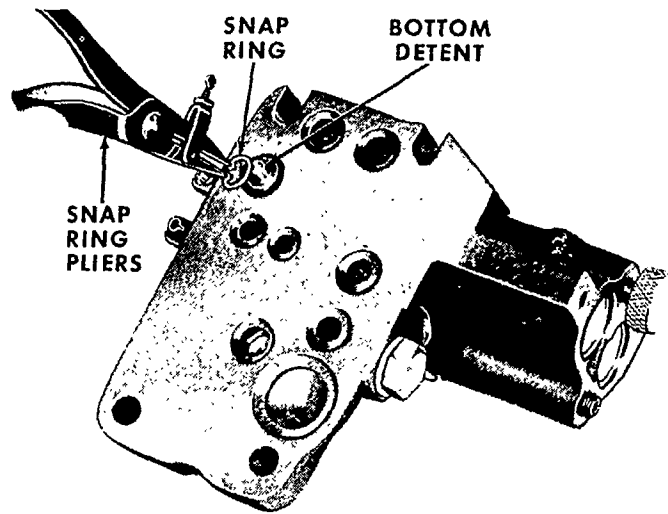

Figure 15
4. Remove the bottom detent assembly by removing the snap ring, spring retainer, spring, and piston, as shown in Figure 15.